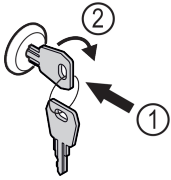

Fig. 145
- ▶ Insert key Fig. 145 (1).
- ▶ Turn key clockwise by 90° Fig. 145 (2).